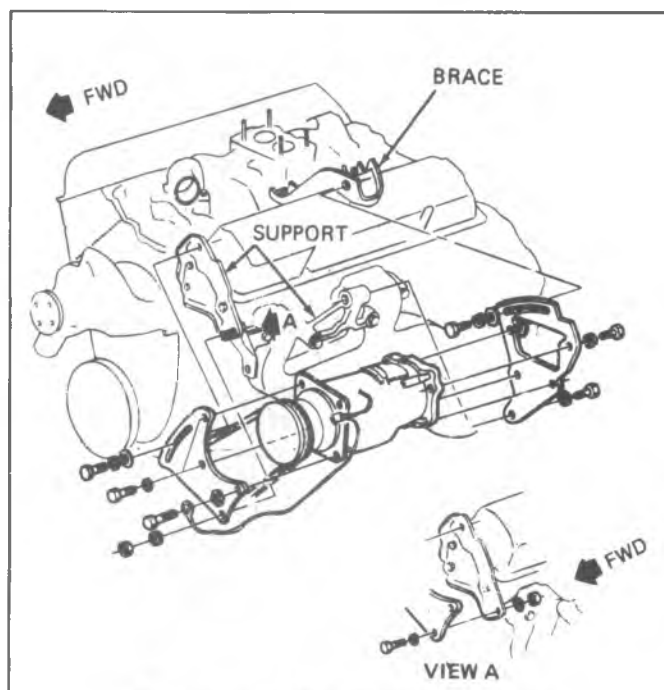

Fig. 6A4-11--A/C Compressor Mounting
6. If the vehicle is equipped with air conditioning, remove the A/C compressor rear brace (fig. 6A4-11).